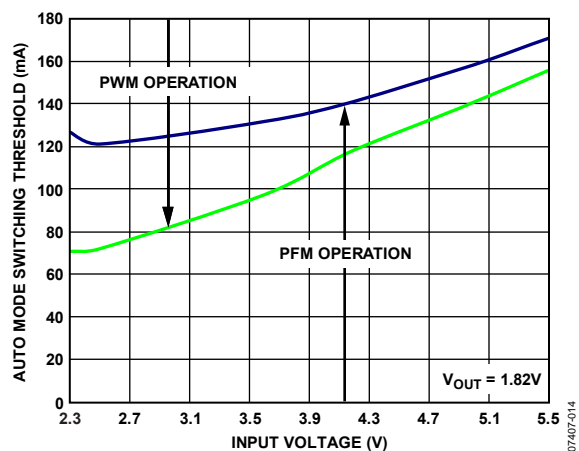

Figure 22. Auto Mode Switching Threshold vs. Input Voltage
*PFM AND PWM THRESHOLD VARIES WITH INPUT VOLTAGE. SEE FIGURE 22, FIGURE 23 and FIGURE 24 FOR TYPICAL VALUES.
When the MODE pin is low, the converter switches between PFM and PWM modes automatically to maintain optimal transient response and efficiency. The mode transition point depends on the input voltage. Hysteresis exists in the transition point to prevent instability and decreased efficiencies that could result if the converter were able to oscillate between PFM and PWM for a fixed input voltage and load current. See Figure 22, Figure 23, and Figure 24 for typical values.